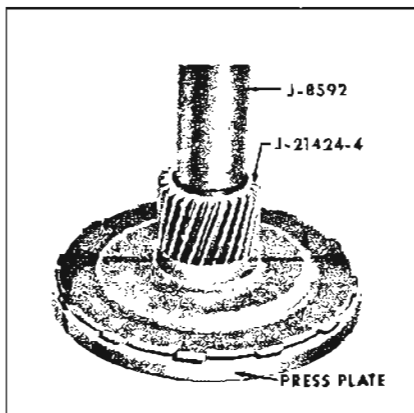

Figure 5-227
2. Install tool J-21424-4 into low sun gear. Using Drive Handle J-8092 press bushing into low sun gear until bushing installer is flush with top of low sun gear. See Figure 5-227.